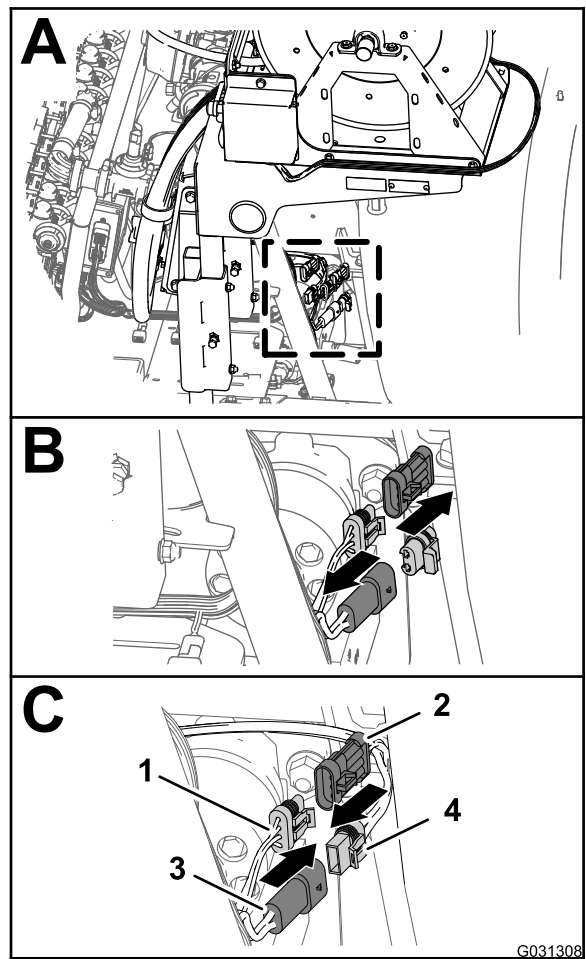

Figure 171
1. At the back of the machine, locate the wire harness for the electric hose reel kit at the back of the sprayer tank (Figure 171).
2. Remove the plug from the 2 pin connector of the rear main harness for the hose reel power (Figure 171).
3. Connect the 2 socket connector of the harness for the electric hose reel into the 2 pin connector of the rear main harness (Figure 171).
4. Remove the cap from the 3-socket connector of the rear main harness for the spray harness interconnect (Figure 171).
5. Connect the 3 pin connector of the harness for the electric hose reel into the 3 pin socket of the rear main harness (Figure 171).